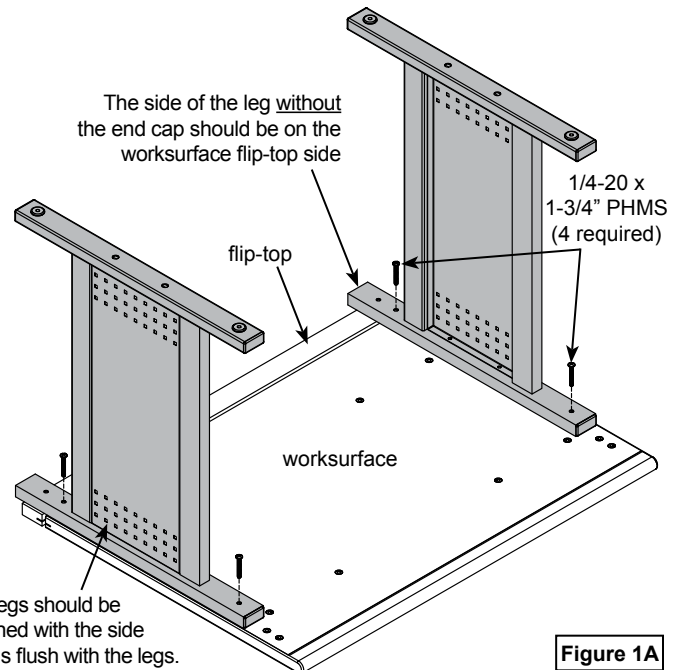

Figure 1A
- Align the legs with the mounting holes, and install 1/4-20 x 1-3/4" PHM screws into the legs as shown. **Figure 1A.**